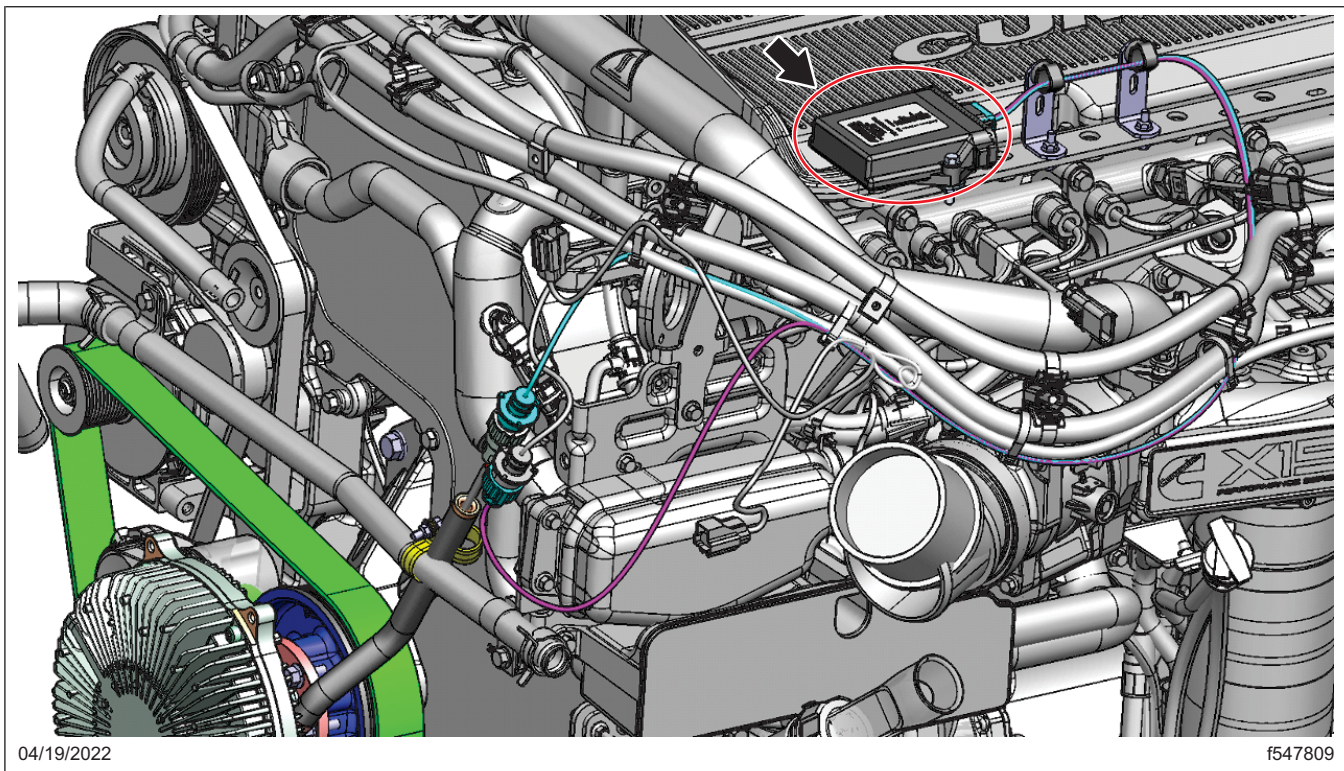

Fig. 1, Kysor Fan Control Module Location
3. Locate the Kysor fan control module on the mounting bracket along the left-hand side of the engine rocker cover toward the front of the engine. See Fig. 1.